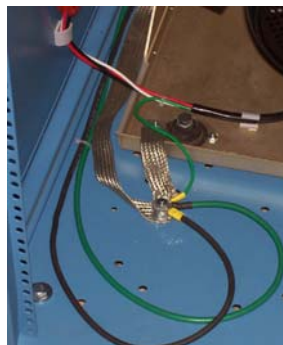

Figure 2-6
- 2.5.1.5 Route the green ground wire to the front of the PA cabinet. Remove the bottom front panel of the PA cabinet and connect the ground wire to the ground stud (Figure 2-6).